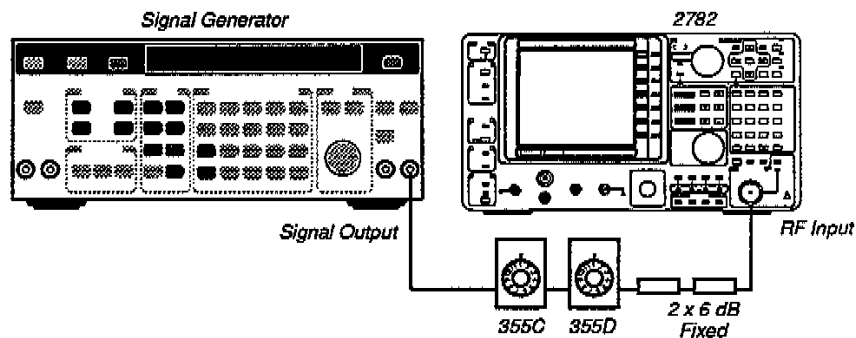

Figure 3-15. Test Equipment Connections for Reference Attenuator Adjustment.
Figure 3-15 shows how the connections should be made.
1. Connect the signal generator to the RF INPUT connector of the 2782 through a pair of variable step attenuators (10 dB and 1 dB, respectively) and a pair of 6 dB fixed attenuators (as shown in Figure 3-15).